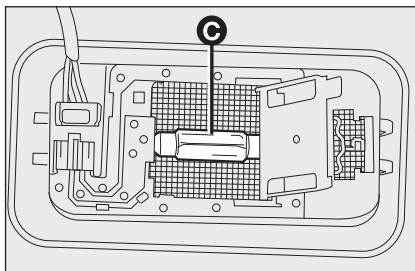

fig. 34
- ☐ replace bulb **C-fig. 34** releasing it from the side contacts, then insert the new bulb making sure it is correctly clamped between the contacts;